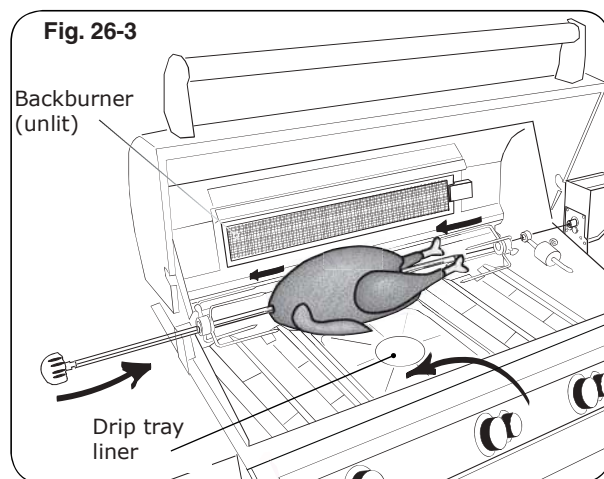

Fig. 26-3
4. Slide the left meat holder onto the rod (and tighten), the meat onto the rod and into the holder, followed by the right meat holder onto the rod and into the meat as shown in Fig. 26-3. Tighten the right meat holder. Be sure the meat is centered and balanced as well as possible.
9. To keep drippings off the burners and simplify cleanup, place Fire Magic® drip tray liners under the meat, if desired (Fig. 26-3).